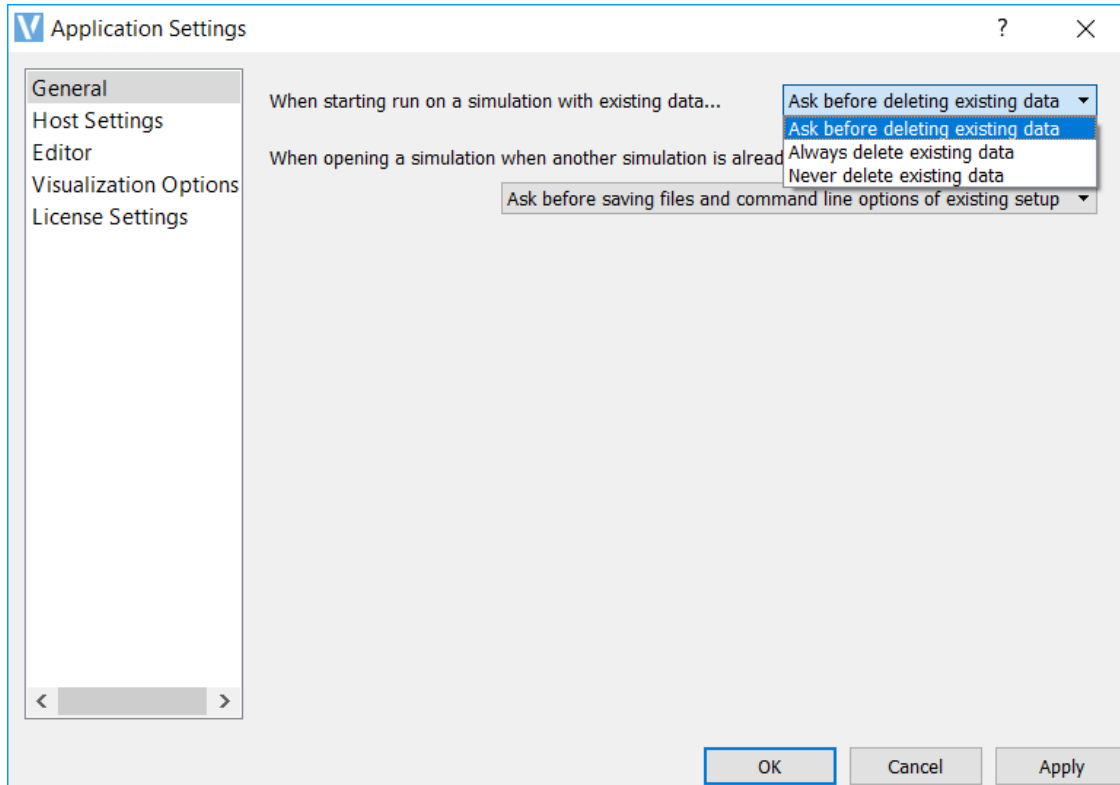

Fig. 4.12: Application Setting When Starting Run on a Simulation with Existing Data
- When starting run on a simulation with existing data, the default setting that VSimComposer will use when starting a simulation that already contains data is *Ask before deleting existing data*. If you know that you will always want to create fresh data for each run, use the pulldown menu to set the default to *Always delete existing data*. If you know that you will always want to run on the data already available, use the pulldown menu to set the default to *Never delete existing data*. See Fig. 4.12.